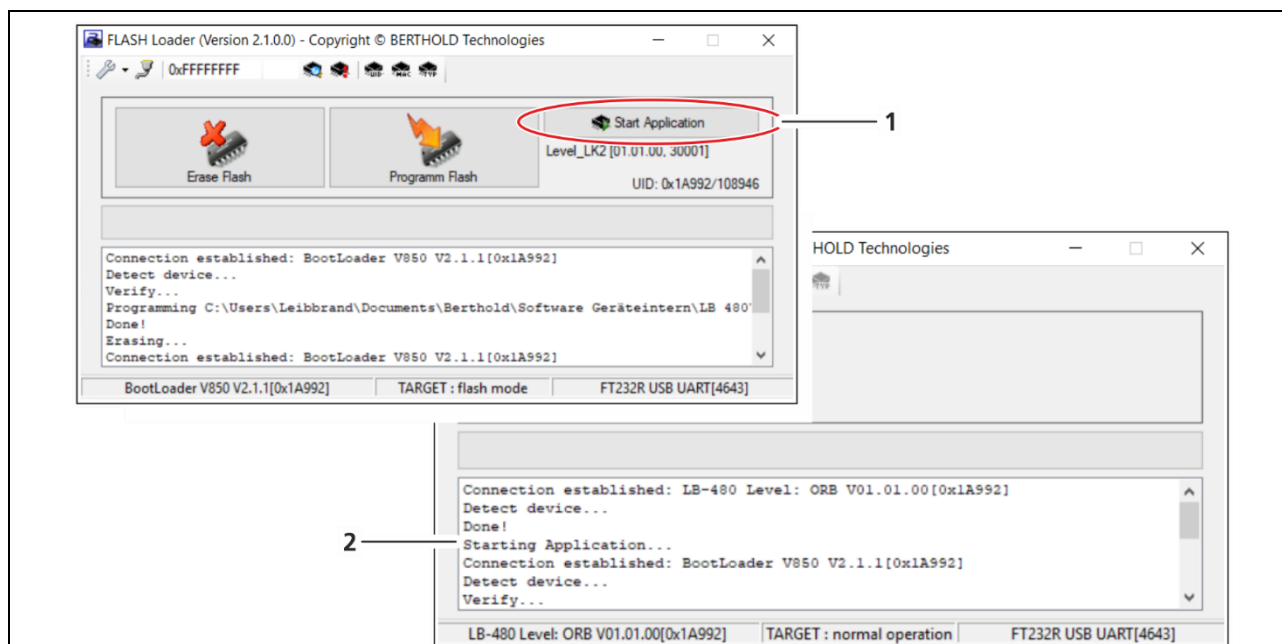

Fig. 7 Start embedded software
28. After successful installation, click the button <Start Application> (Fig. 7, Pos.1).
- ▶ The new embedded software has been installed correctly (Fig. 7, Pos.2) and the required resets (Factory Reset and Software Reset) can be performed.